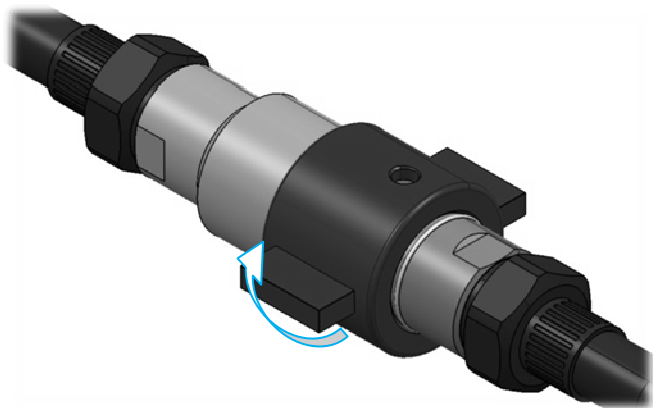
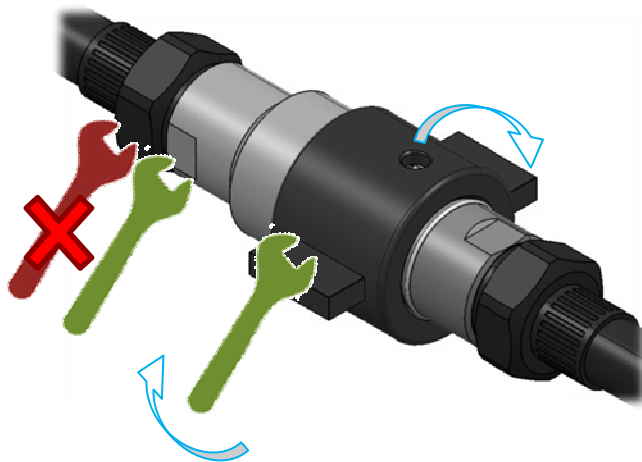

Fig. 1
Fig. 2
- Screw the fixing ring nut on the female coupling (fig. 1) with spanner and counter spanner until a mechanical stop (fig. 2) and being careful not to intervene on the connection of the female pipe, apply a tightening torque that does not allow the unscrewing of the fixing ring nut in operating conditions.